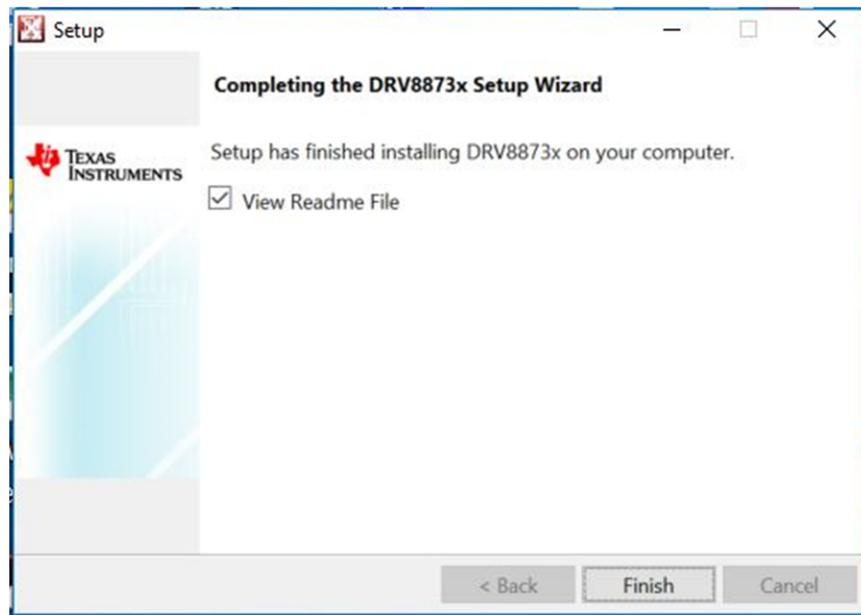

Figure 12. Installation Complete
Step 9. Click the *Finish* button to close the installer and begin using the GUI (see Figure 12).